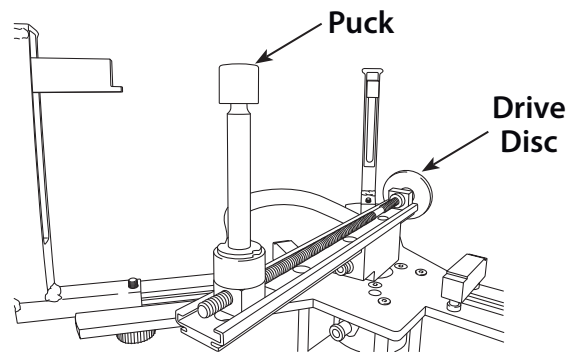

Figure 12
9. Slide the nozzle puck onto the nozzle. (Figure 12)